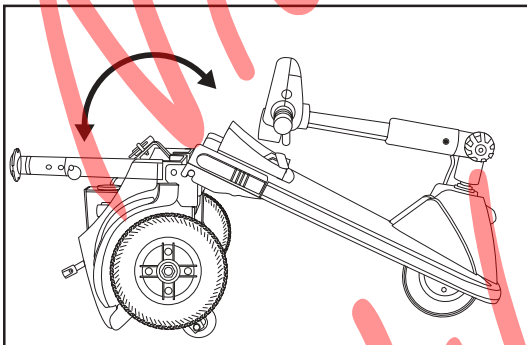

Figure 19. Frame Positioning
1. Push back on the seat post to pivot the scooter's rear section rearwards until it is standing vertically on its rear bumper. See figure 19.
3. Holding the seat post, slowly pivot the rear section forward until the locking brackets are fully connected onto the rear pegs. See figures 19 and 20.